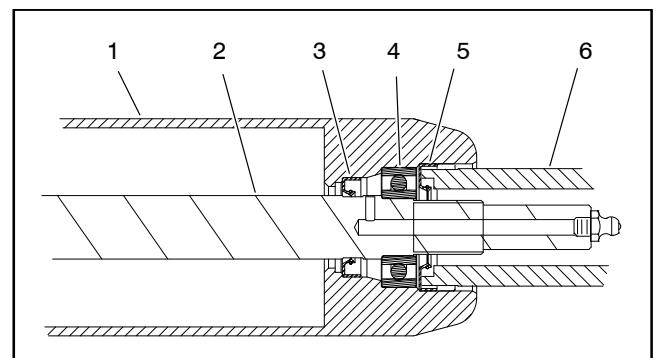

Figure 53
D. Carefully install first outer seal into roller tube making sure that seal lip (and garter spring) faces end of tube. Use bearing/outer seal tool (see Special Tools) and soft face hammer to lightly seat seal (Fig. 53). Make sure that shaft and bearings still freely rotate after seal installation.